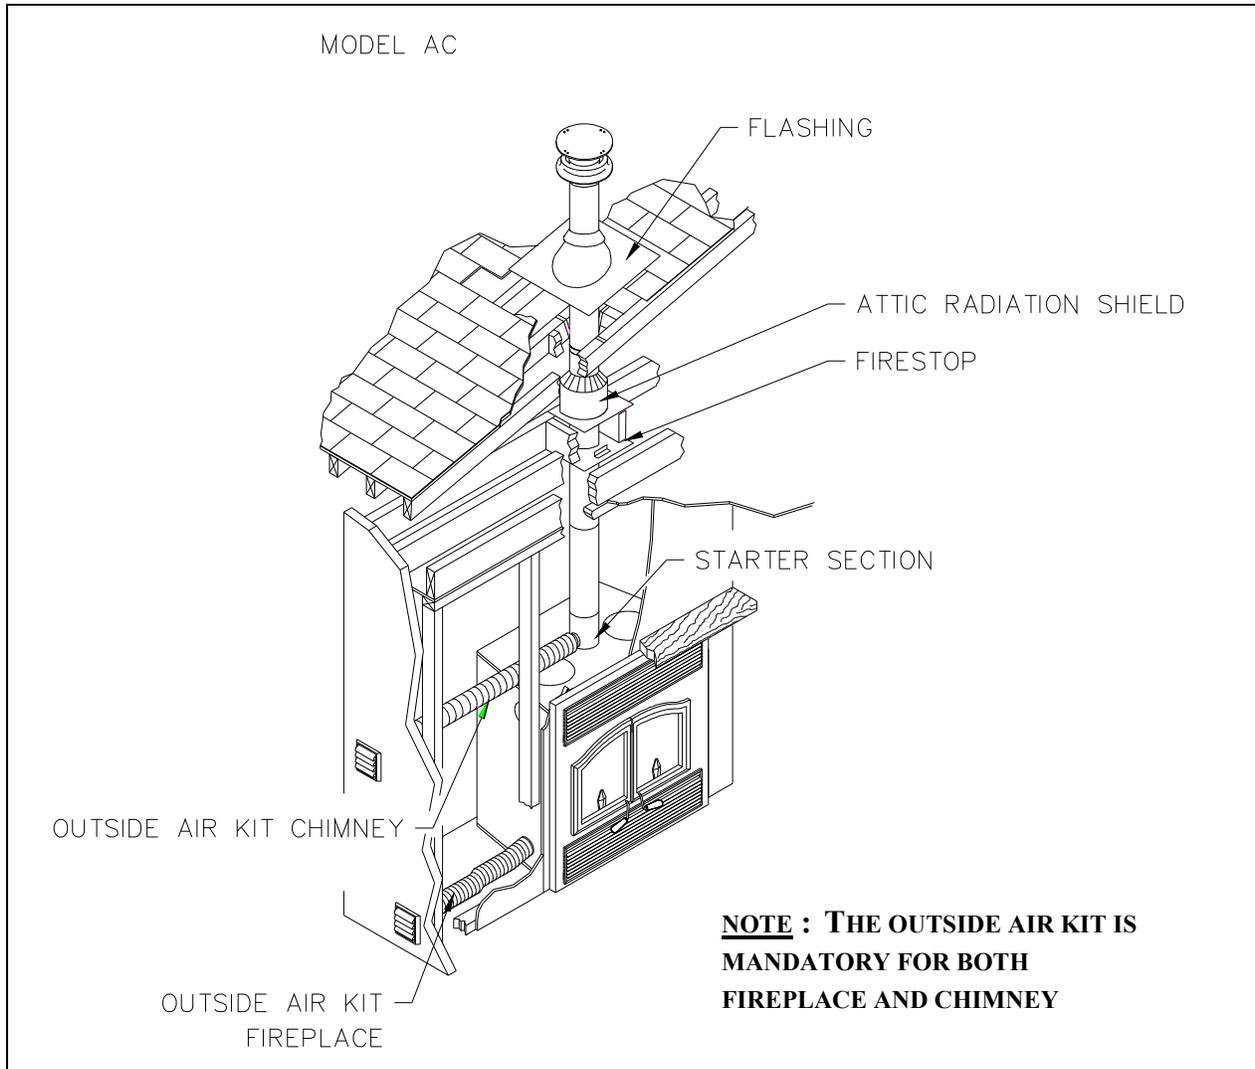

Figure 25
3. For Secure Temp^{ASHT+} / Nova Temp^{HT6103+} and Secure Temp^{S2100+} / Nova Temp^{HT6000+} chimneys, place the first chimney length on the fireplace. To lock it in place, turn ¼ of a turn clockwise. With the AC chimney, you must use a starter section before installing the first chimney length (figure 25). Continue installing chimney lengths making sure to lock each length in place.